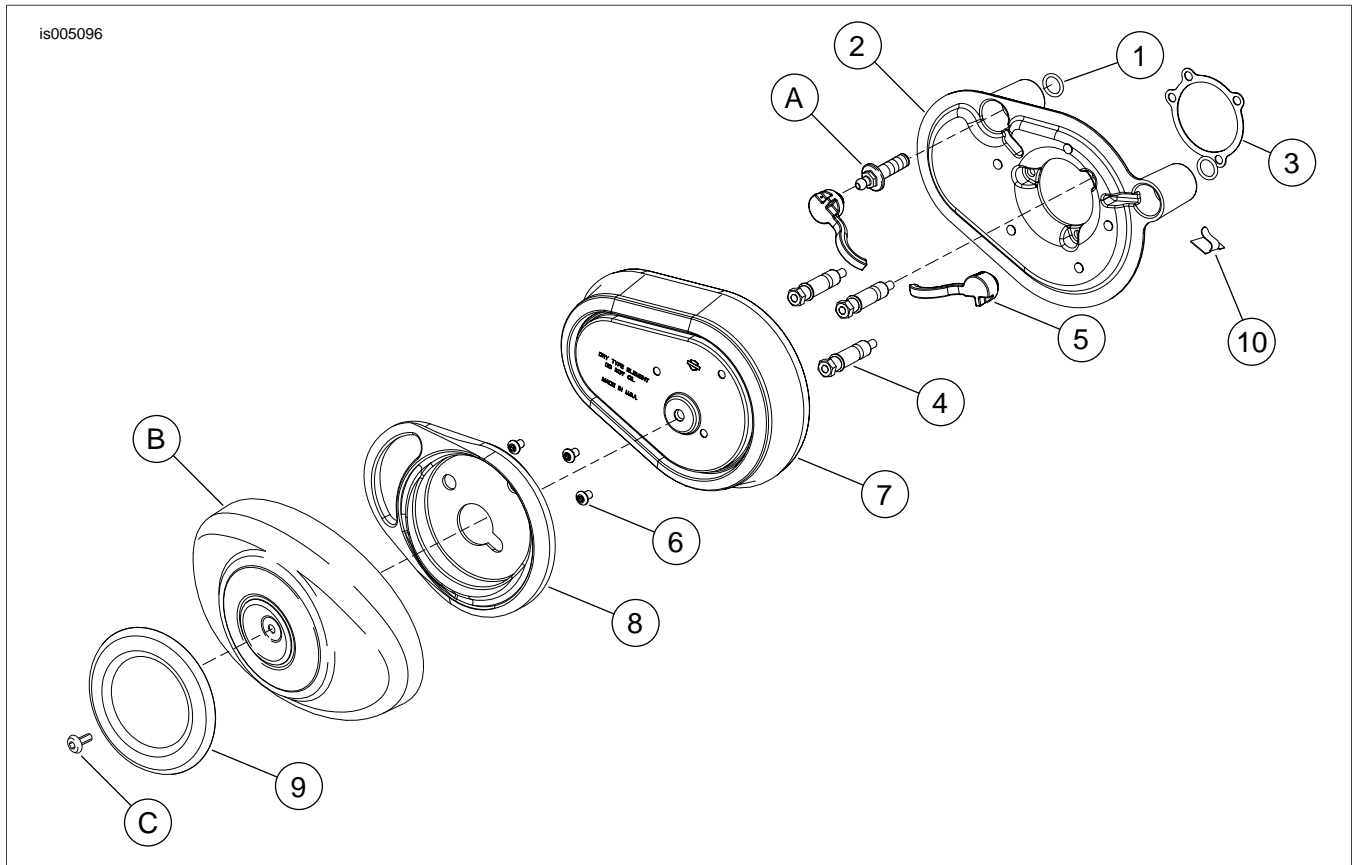

Figure 1. Service Parts: Screamin' Eagle Stage 1 Kit
See Figure 1 and Table 1.
1. Clean lower area of induction module side of backplate. Use a mixture of 50 to 70% isopropyl alcohol and 30 to 50% distilled water. Allow to dry thoroughly. Orient adhesive backed clip (8) with opening upwards, and affix in 6 o'clock position. Clamp wire previously removed from original equipment backplate.
2. See Figure 1. Install two O-rings (1) from kit in grooves around breather screw holes on induction module side of backplate assembly (2).
3. Peel the protective strip off the gasket (3) and place the adhesive side onto the backplate. Position the gasket carefully before firmly pressing the gasket into place.
4. Insert breather screws (A) through the backplate.
7. Thread air cleaner mounting studs (4) all the way through the backplate (2) and gasket (3) until the screw threads are captured in induction module. Do not tighten completely at this time.
8. Alternately tighten two breather screws (A) to 120-144 **in-lbs** (13.6-16.3 Nm).
9. Press breather plugs (5) into breather screw cavities and onto ends of breather screws, aligning tubes with recesses in backplate.
10. Tighten three air cleaner studs (4) to 55-60 **in-lbs** (6.2-6.8 Nm).
1. See Figure 1. Secure air filter element (7) to air cleaner mounting studs (4) using screws (6). Tighten screws to 55-60 **in-lbs** (6.2-6.8 Nm).
2. Carefully remove and discard the original air cleaner cover insert from air cleaner cover (B). Remove any residual adhesive on the cover with mineral spirits.
4. Peel liner from adhesive backing of air cleaner cover insert (9). Position insert over air cleaner cover (B) without touching adhesive on cover surface. Line up top of insert with top of oval air cleaner cover.
1. See Figure 1. Remove air cleaner cover (B) and inspect the filter element (7) every 5000 mi (8000 km), or more often under dusty conditions.